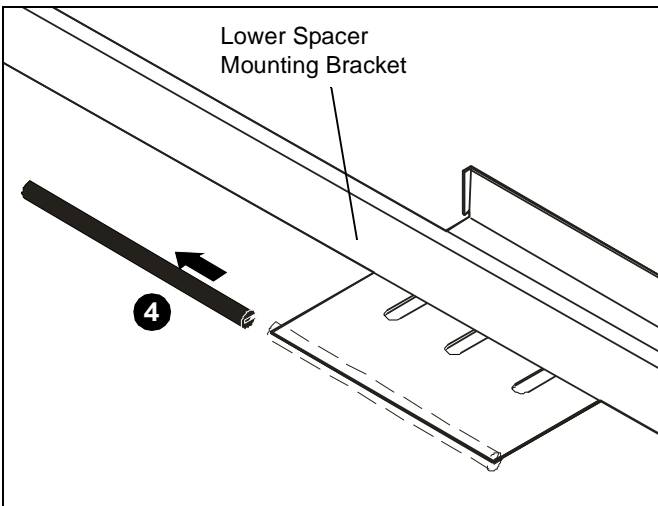

Figure 2
4. Remove rubber pad from lower spacer mounting bracket if present. (See Figure 2)